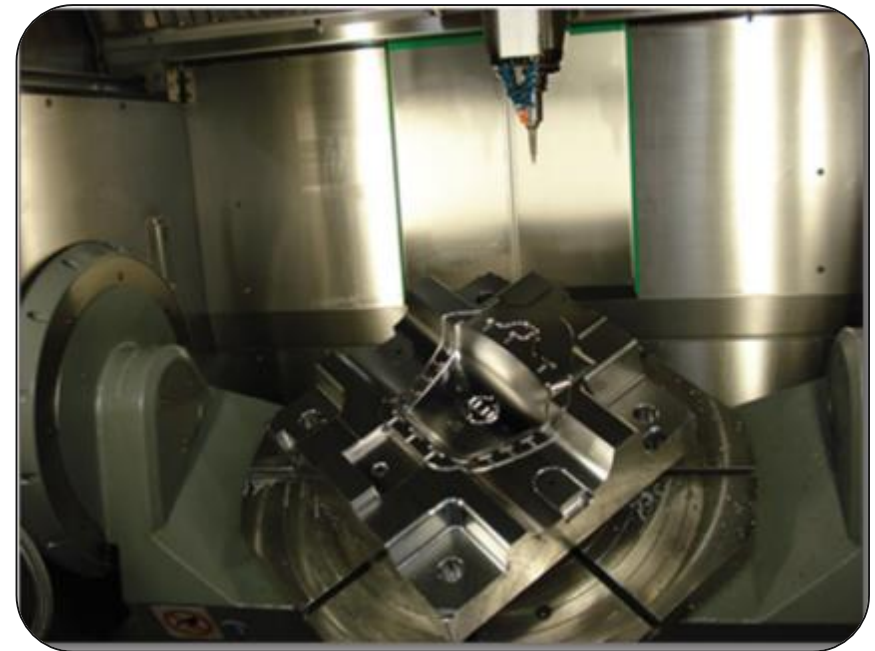

Figure 2: Machine equipped with rotary table
- In Figure 2, the machine is equipped with a rotary table mounted on a trunnion table